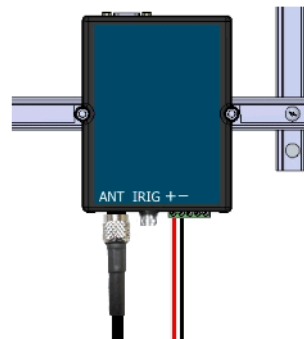

Figure 13 Connect SEL-2401 Power Wires
Step 18. Connect the shorter black and red wires to the - and + POWER terminals on the SEL-2401, respectively. See *Figure 13*.